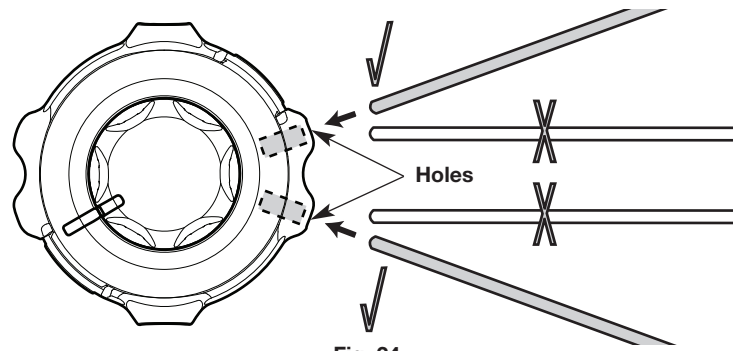
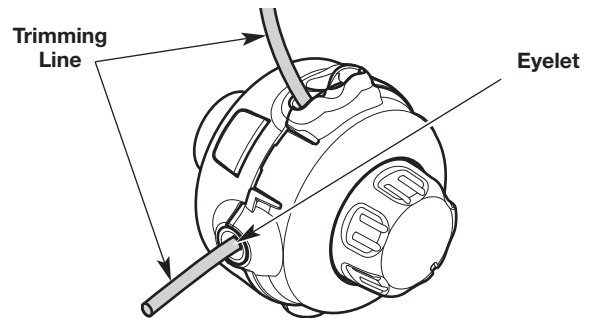

Fig. 24
Fig. 25
4. Insert one end of the new trimming line into a hole in the cutting head (Fig. 24). Insert the line at the angle shown (Fig. 24). Push the line until it protrudes from an eyelet (Fig. 25). Repeat this process with the other end of the trimming line and the other hole.